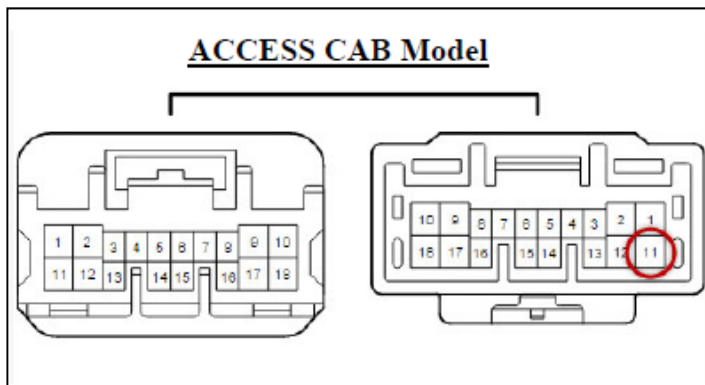

Figure 17I
- c. Find IA2 BLACK connector located behind the lower driver kick panel cover. Attach a YELLOW 12 AWG T-Tap to the WHITE wire pin 11. Use pliers to ensure the T-tap is snapped in correctly. Plug the RED wire from the Bed Light LED wire harness into the T-tap. See Figures 17I, 17J, 17K & 17L.